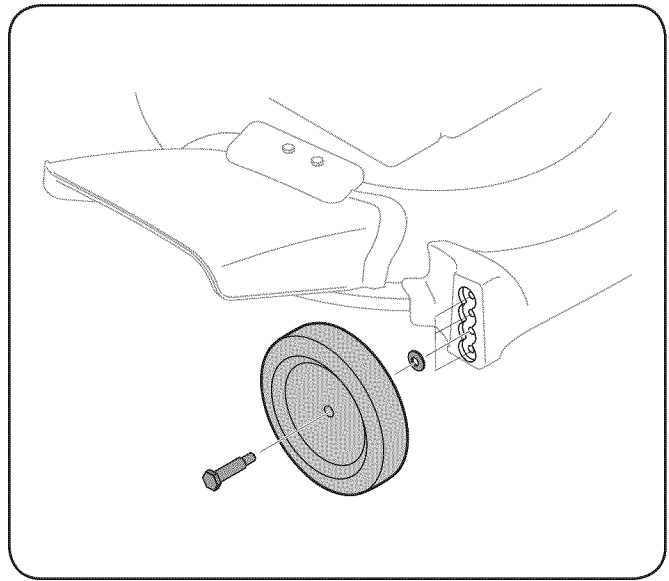

Figure 3-8
1. Remove the shoulder bolts and washers from the wheels as shown in Fig. 3-8.